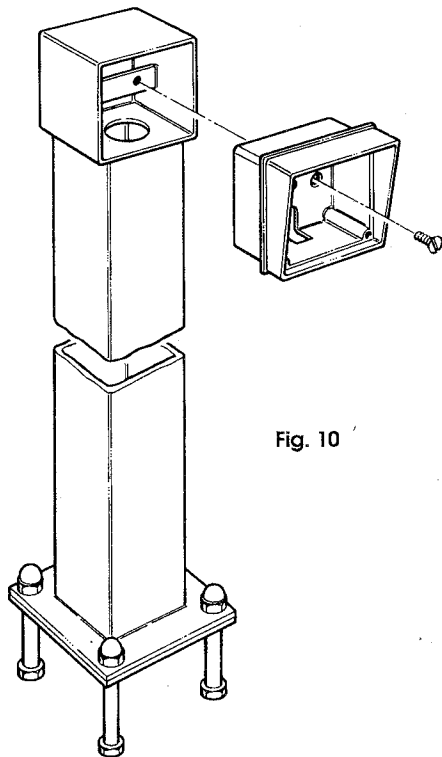

Fig. 10
- 4) COLUMN MOUNTING (Fig. 10)